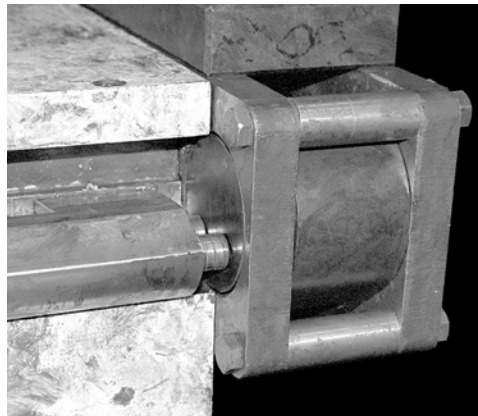

Figure 5-51. Align Pin to Lever Arm
7. Install the lock bars (1) by aligning the lock bar dowel pins (18) with the holes in the locking lever arm (10) (see Figure 5-51). Using a block of wood and a hammer, tap the lock bar into position.